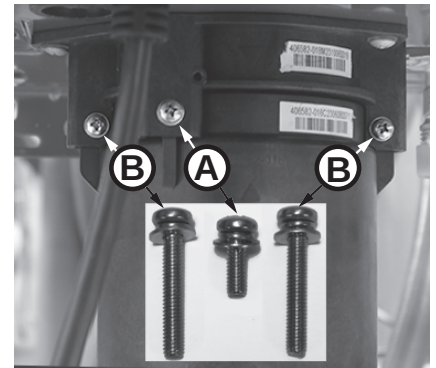

Figure 60 - Identify cartridge screws
- 6** Locate the three screws securing the X3®/Bypass cartridge as shown in Figure 60. Remove the **(A)** M4-12mm screw and the two **(B)** M4-25mm screws from cartridge. Place screws aside in a safe place for reinstallation.